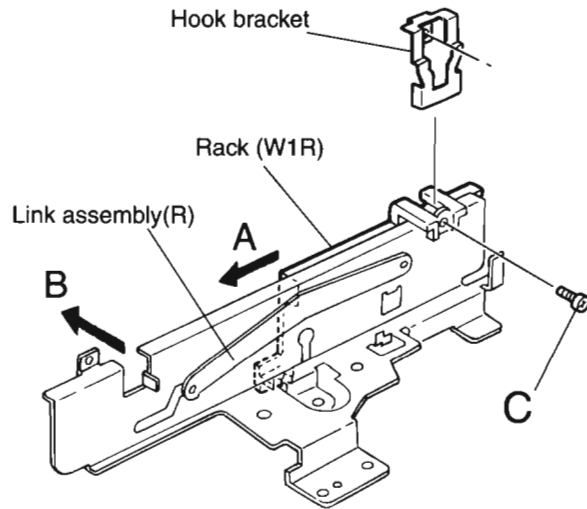

Fig.25
## ■ Removing the Rack guide base assembly (R) (see Fig.25 and 26)
2. Move Rack (W1R) in the direction of arrow A, then remove it in the direction of arrow B (see Fig.25).